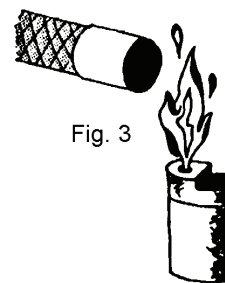

Fig. 3
3. Sear new exposed end using a lighter or stove. (see fig. 3). (When using a stove make sure it is turned on high. Lower temperature will allow melted rope to stick to the stove.)